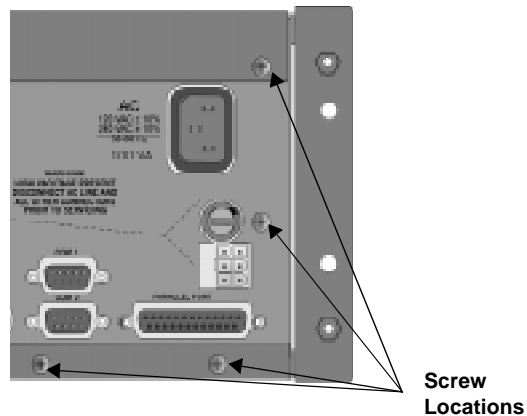

Figure 7-1 Mother Board/Power Supply Assembly retaining Screw Locations
5. On the back of the receiver remove the four screws that hold the mother board/power supply assembly to the chassis. (See Figure 7-1 for screw locations.)
3. On the back of the receiver replace the four screws that hold the mother board/power supply assembly in place. (See Figure 7-1.)